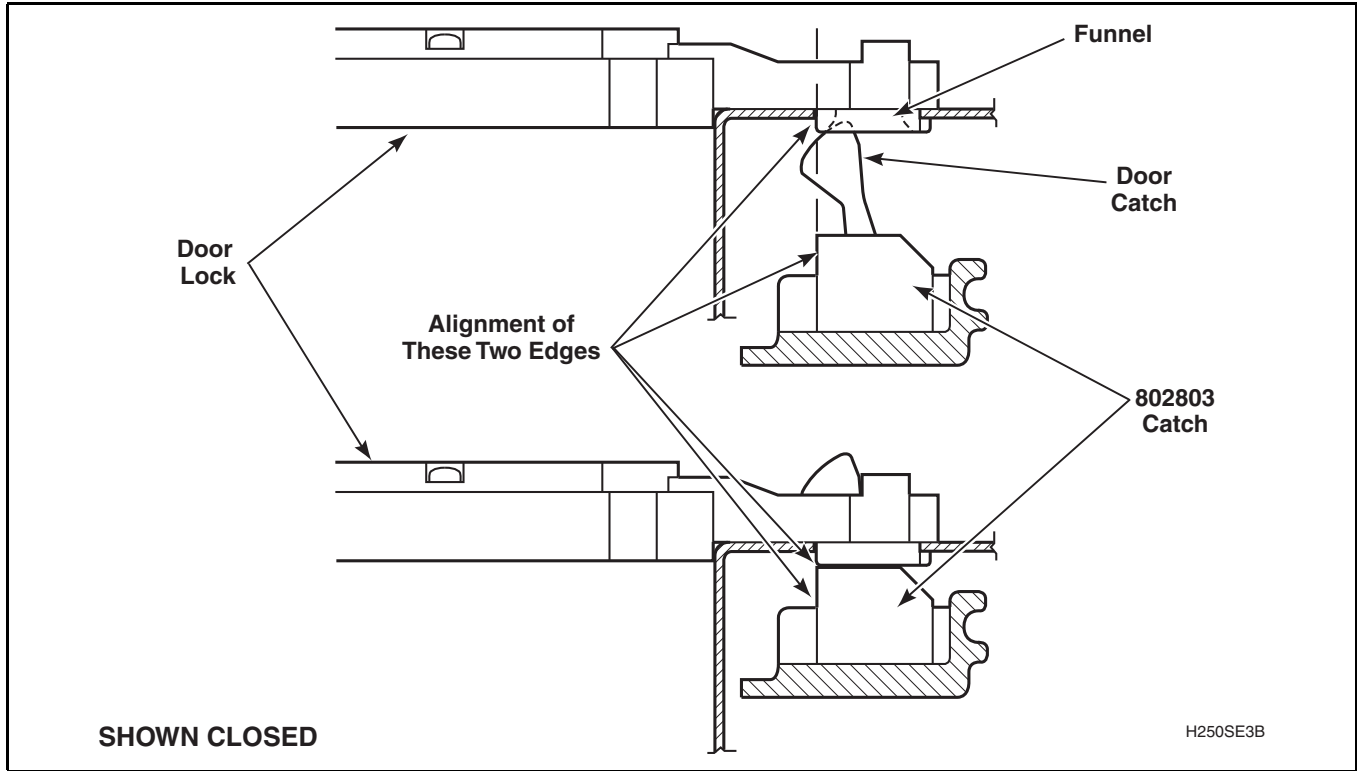

Figure 17
- f. Adjust door catch so the outside edge is aligned with the edge of the lock. Refer to *Figure 17*.
- g. Visually check that the door catch properly engages the funnel of the door latch/switch assembly. Refer to *Figure 17*.